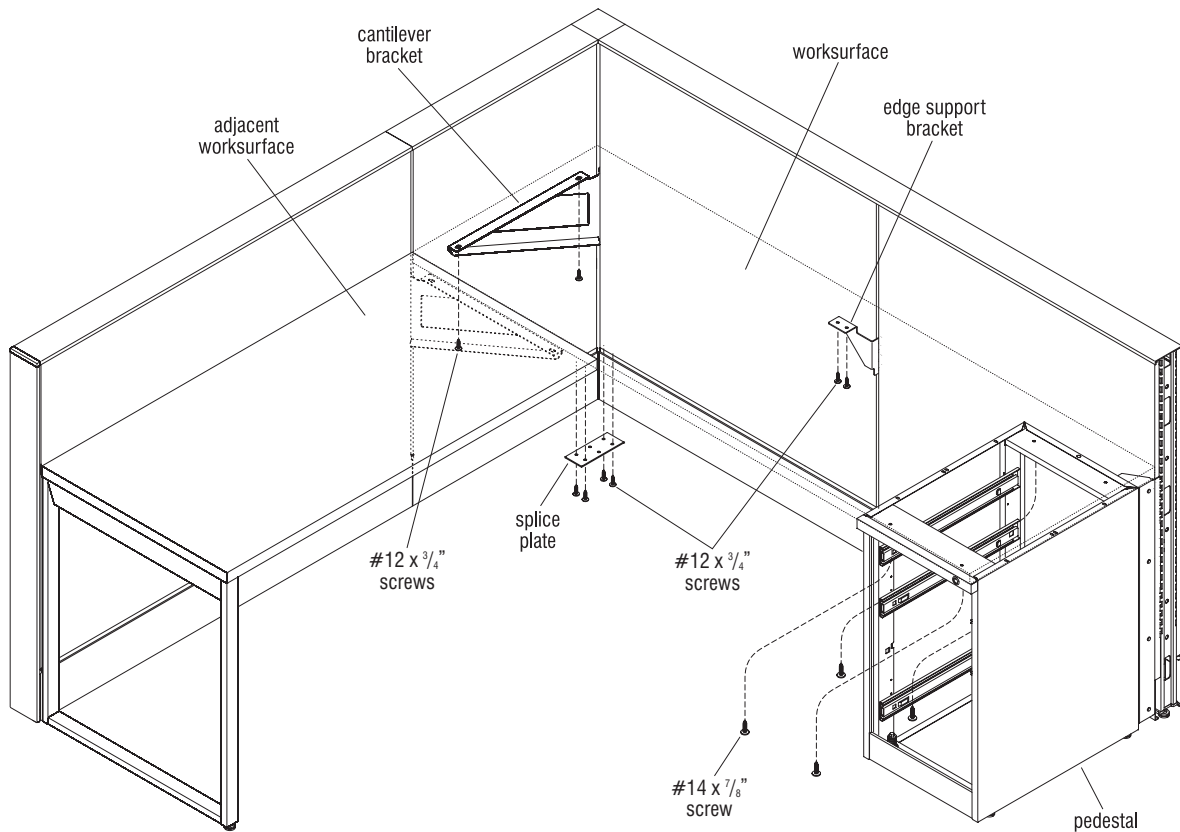

Figure 26
3. Carefully place worksurface onto the installed cantilever bracket, support bracket (if used) and the pedestal. Align mounting holes of the installed brackets to pre-drilled holes in underside of worksurface. Secure using two #12 x 3/4" screws per bracket. Take care to not over-tighten screws (Figure 26).
4. To install pedestal to underside of worksurface, align pre-drilled holes in the worksurface with mounting holes of the pedestal. Take care to assure that the front and side of the pedestal is flush with the edges of the worksurface as illustrated (Figure 26).
5. Once mounting holes are aligned and cabinet is square, secure pedestal to worksurface using four #14 x 7/8" screws (Figure 26).
6. To keep worksurfaces level, install a small splice plate between adjacent worksurfaces as illustrated. Reference "Perpendicular 24"-30" Deep Worksurface Connections with 74P Edge" instructions on page 5 for splice plate installation (Figure 26).